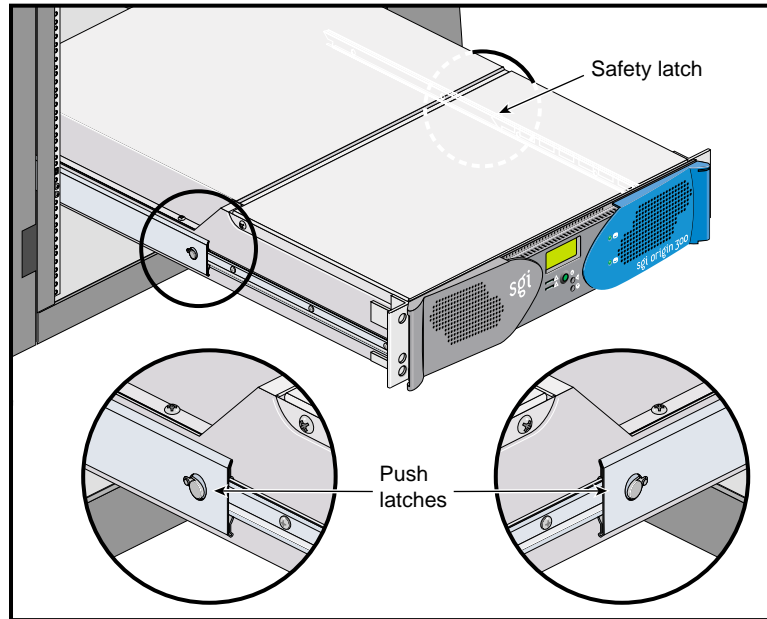

Figure 3-6 Safety Latches
- c. With one person holding each side, release the safety latches on both sides of the server and pull the server out of the slide rail assembly (refer to Figure 3-6).
11. Align the server rails with the rack slide rails and slide the server into the rack until the safety latches stop the server (refer to Figure 3-6).